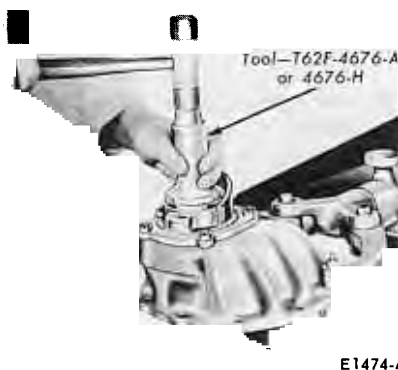

FIG. 49—Installing Oil Seal
7. Coat the outside edge of a new oil seal with a small amount of a new oil resistant sealer. **Do not put any of the sealer on the sealing lip.** Install the seal in the bearing retainer (Fig. 49). On cars with high performance engines, use tool T58L-4676-A or tool 4676-F.